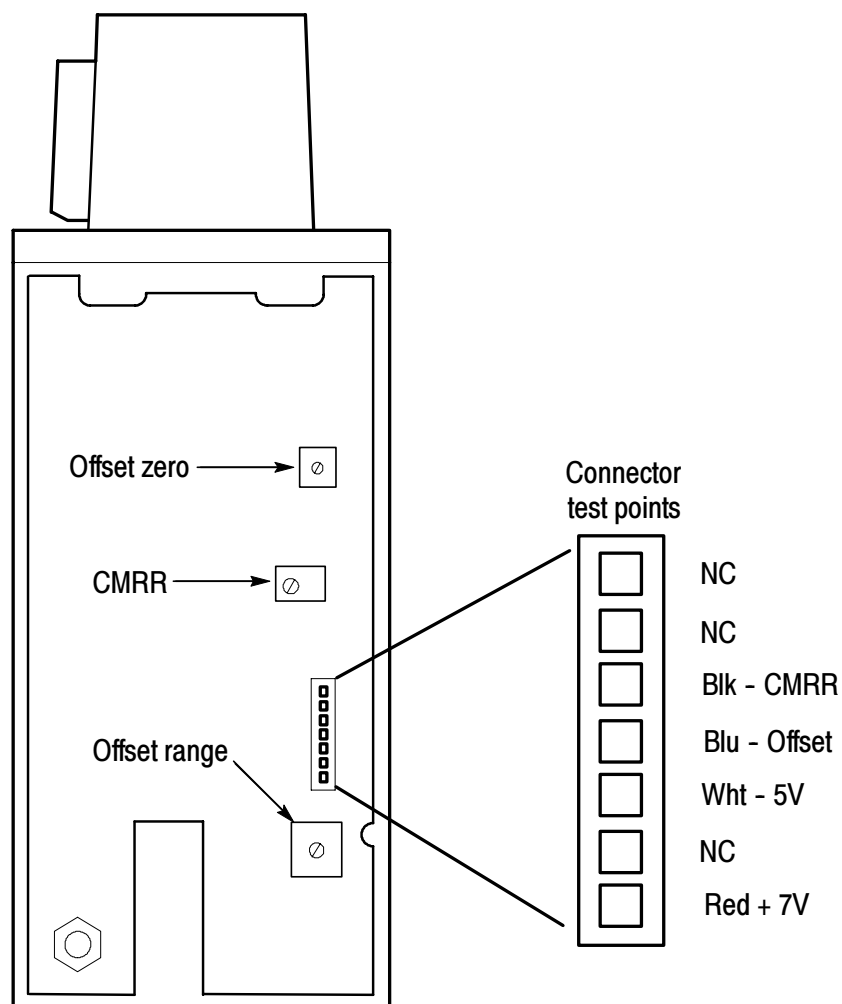

Figure 24: Adjustment and test point locations
Figure 24 shows the location of the adjustments and test points inside the compensation box. Refer to Figure 24 when performing the adjustment procedures in this section.
3. Refer to Figure 24 on page 49 for the location of the offset voltage test point. Using a second DMM, probe the test point and adjust the 1103 offset voltage to exactly -0.750 V.
6. Adjust **Offset Range** for a DMM reading equal to the value set in the *Zero Offset* procedure (step 4 on page 50), ± 3 mV. Refer to Figure 24 on page 49 for the location of the offset range adjustment.